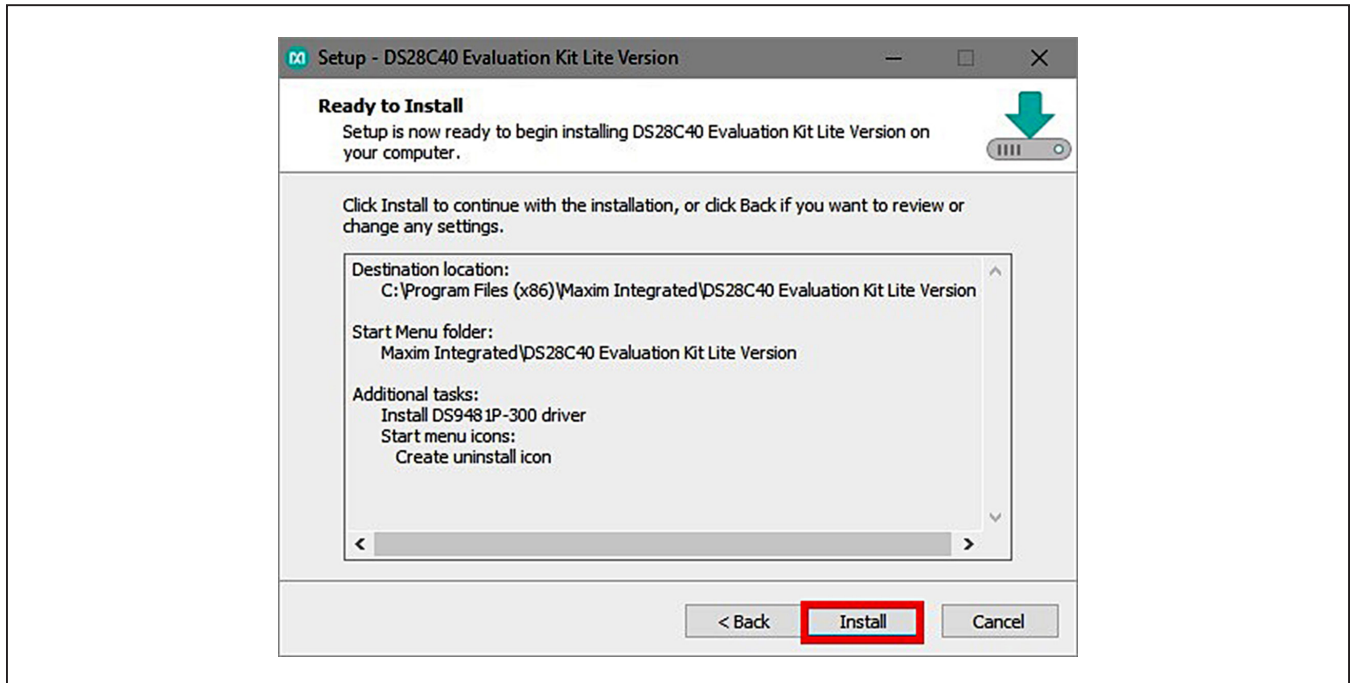

Figure 6. Ready to Install
- 7) Next click on **Install** (Figure 6). A new window pops up to show progress of the installation.